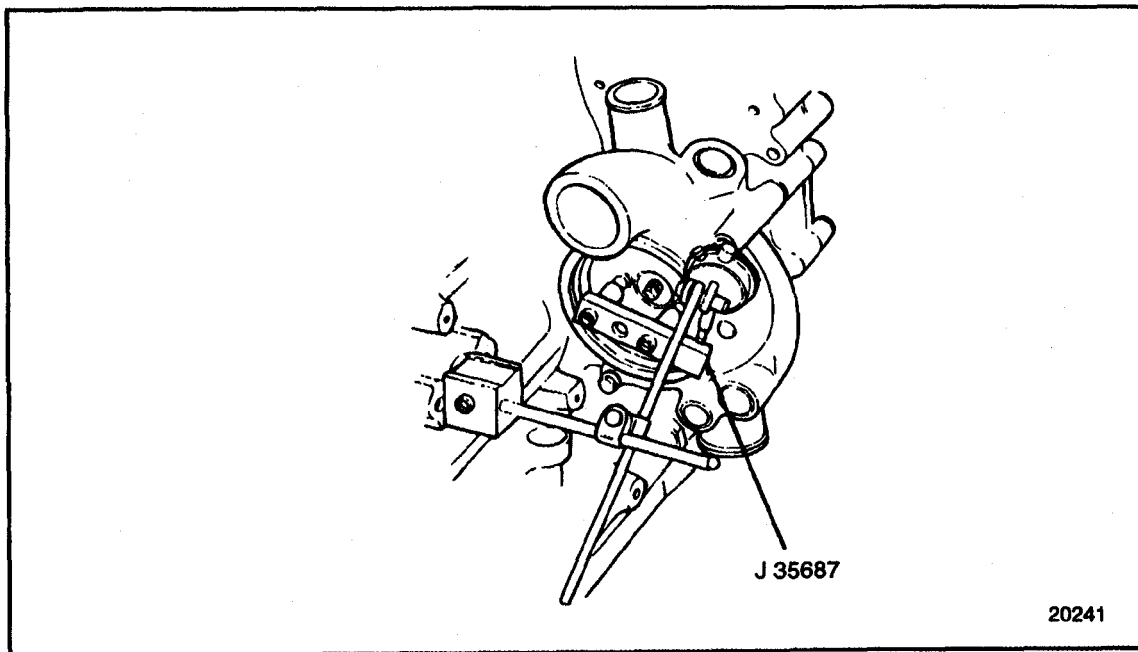

Figure 1-315 Water Pump Impeller Slip Tester Method
- [b] Install the water pump impeller slip tester, J 35687-1, to the water pump impeller with two 5/16-18 bolts, using the instructions supplied with the tool. See Figure 1-315.